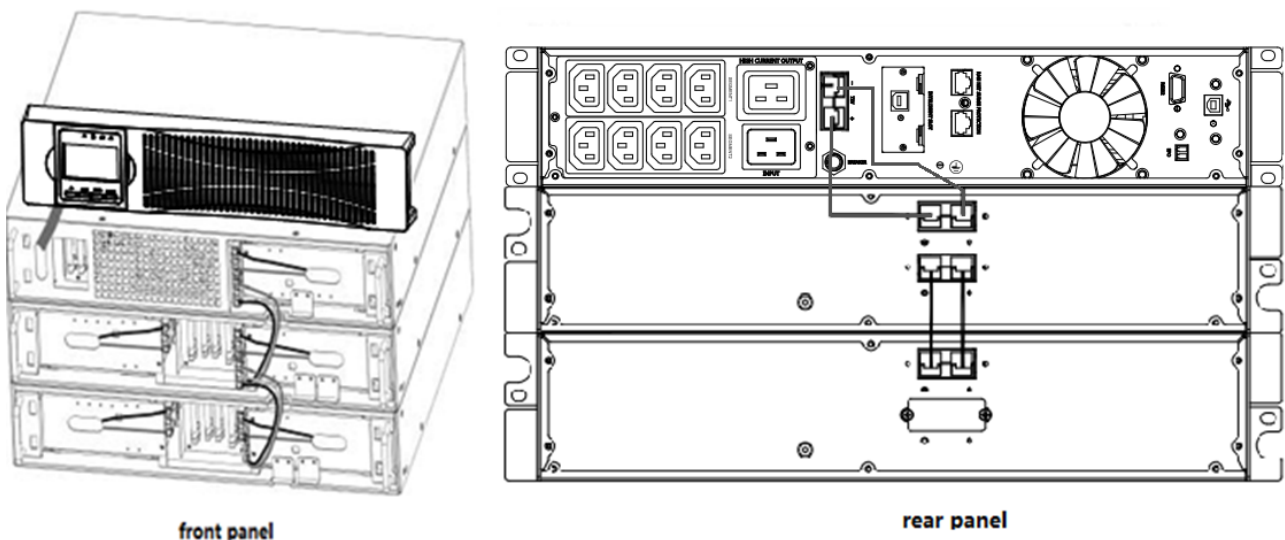

Figure 10 Typical EBP Installation
front cover. See Figure 10 for the location of the top EBP cable knockout.
- d) If you are installing more than one EBP, for each additional EBP remove the EBP cable knockout on the top and bottom of the EBP front cover. See Figure 10 for the location of the EBP cable knockouts.
- e) Plug the EBP cable(s) into the battery connector(s) as shown in Figure 10. Up to four EBPS may be connected to the UPS. Connect black to black,. Press the connector tightly together to ensure a proper connection.